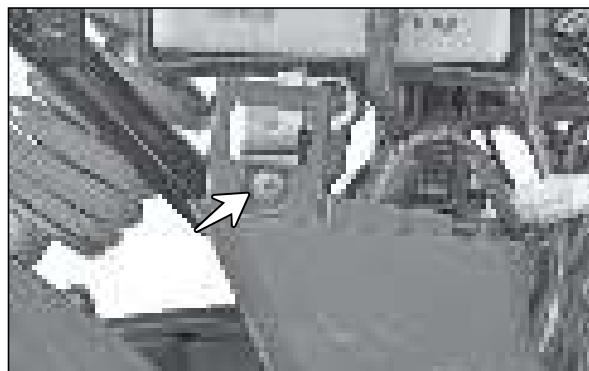

Fig. 6.145
- Remove CRR pan head screw from the rider foot rest assembly RH and dislocate the rider foot rest assembly RH. (Fig. 6.145)